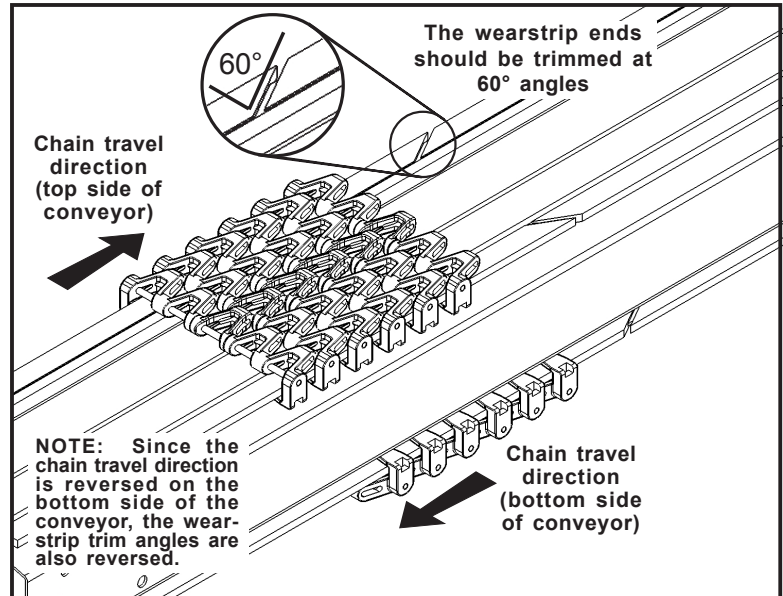

Figure 10: Overview of Wearstrip assembly
**CUT ANGLE:** The ends of adjoining wearstrip sections should be trimmed at 60° angles, as shown in *Figure 10*. This angle, in conjunction with the direction in which the angles are cut (discussed below), allows the chain to travel smoothly over the wearstrip joint.
**CUT DIRECTION:** The direction in which the conveyor chain will travel dictates the direction at which the wearstrip angles will be cut. *Figure 10* shows the correct angles in relation to the direction of chain flow. When making cuts, keep in mind that the conveyor chain runs in the opposite direction on the underside of the frame.
Ensure that the angles are cut correctly with regard to the direction of chain flow. Refer to **Figure 10** on previous page.